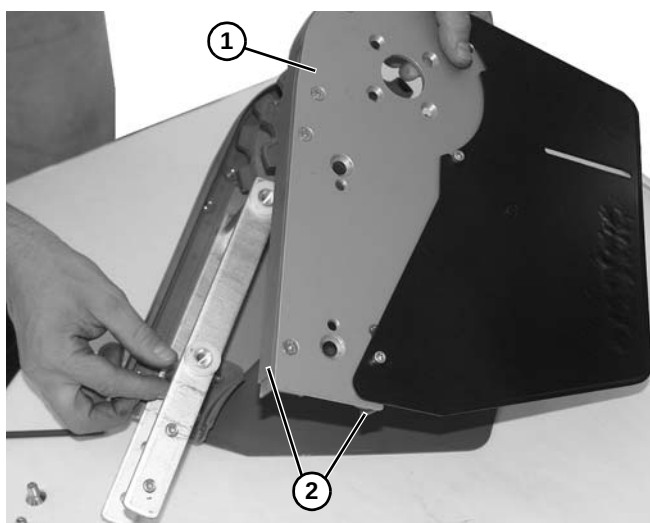

Figure 75
5. Remove the head plate (**Figure 75, item 1**) from the drive end.
6. To remove upper and lower retaining guides (**Figure 75, item 2**), see “Retaining Guide Replacement” on page 32.